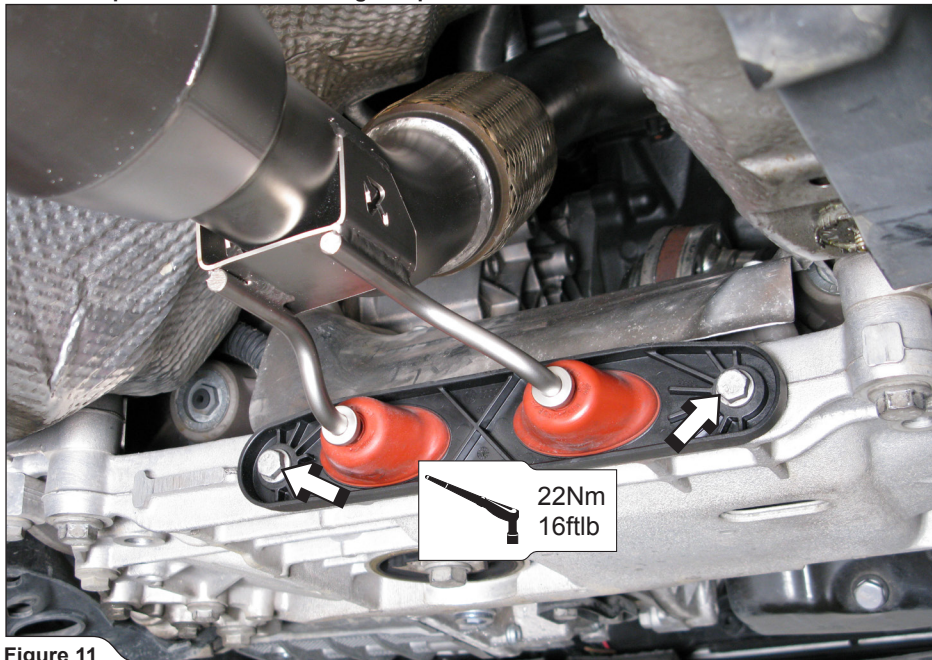

Figure 11
2. Assemble the Akrapovič Down Pipe in the reverse order from the order in which the original was removed. Tighten the front lambda sensor (Figure 11, 12, 13).